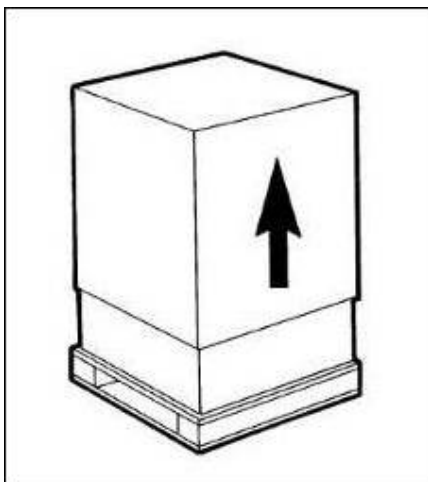

Fig. 48
- a. Remove the packing (Fig. 48) and preserve it in order to reuse for winter storage.